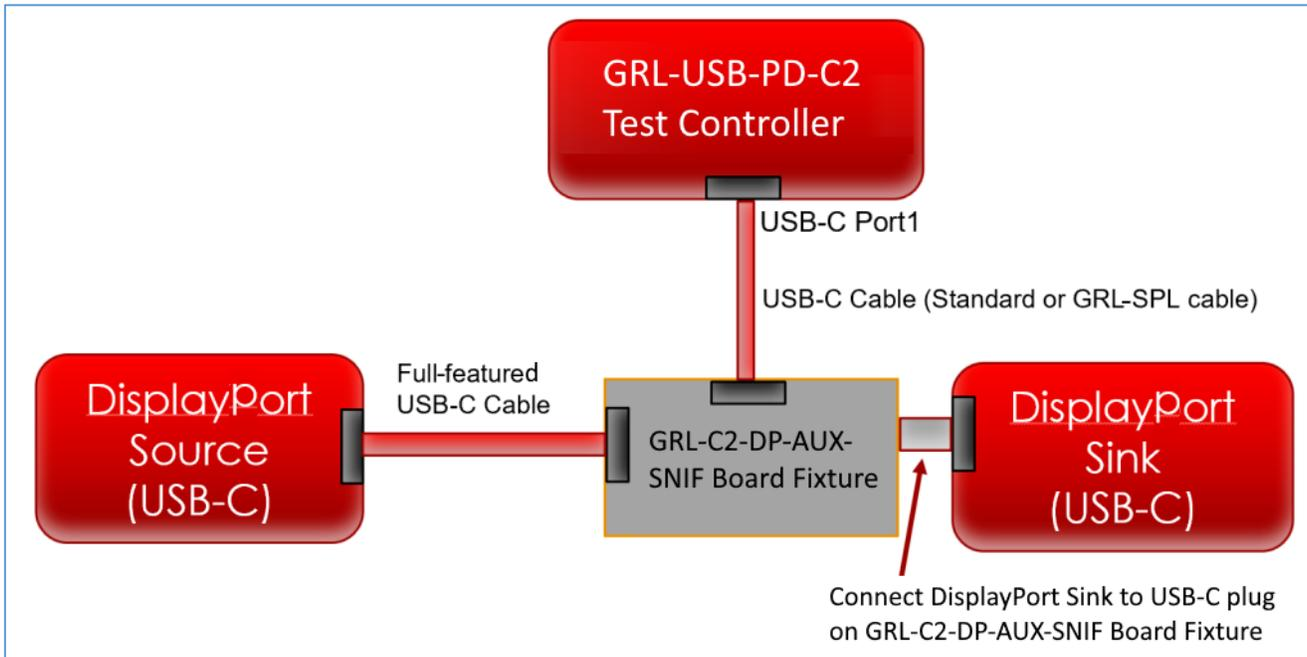
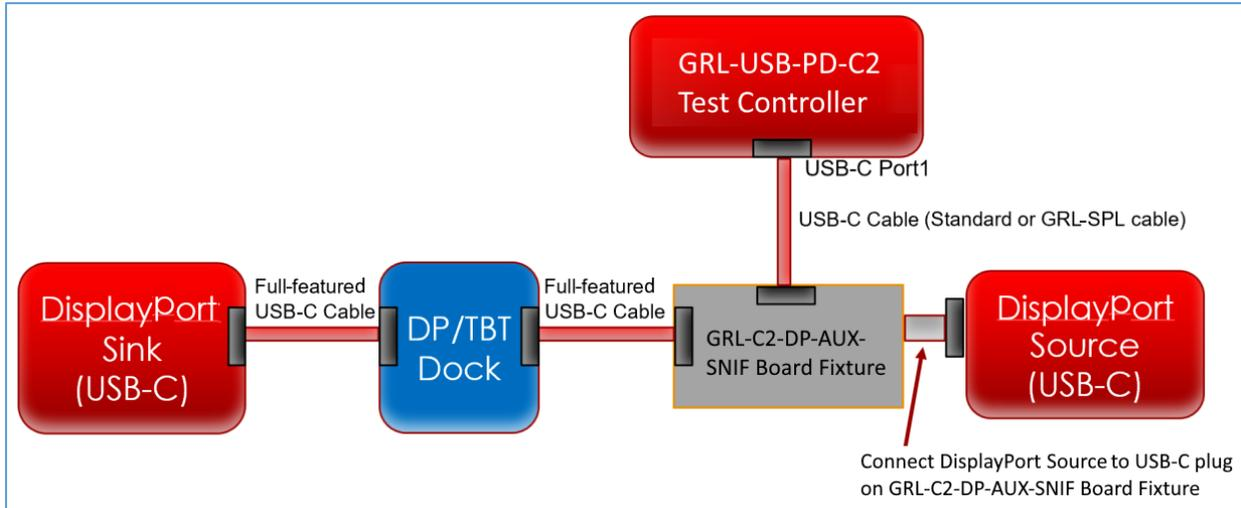

FIGURE 3.5: DISPLAYPORT SOURCE & SINK TEST SETUP CONNECTION DIAGRAM
FIGURE 3.10: DISPLAYPORT SOURCE & SINK WITH DISPLAYPORT/THUNDERBOLT DOCK TEST SETUP CONNECTION DIAGRAM
As shown in Figure 3.5 above, connect the equipment as follows:
As shown in Figure 3.10 above, connect the equipment as follows:
1. Once the equipment for the test setups as described in Figure 3.5 and Figure 3.10 (whichever applies) have been connected, and connection has been established between the DisplayPort Source and Sink devices, the USB Power Delivery protocol communication followed by the DP-AUX transactions can be seen initially on the *Results* screen of the GRL-USB-PD-C2 / C2-EPR Browser App, as shown in below examples.